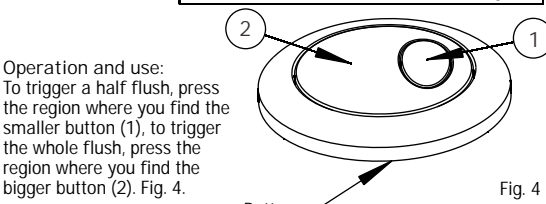

Fig. 4
To trigger a half flush, press the region where you find the smaller button (1), to trigger the whole flush, press the region where you find the bigger button (2). Fig. 4.